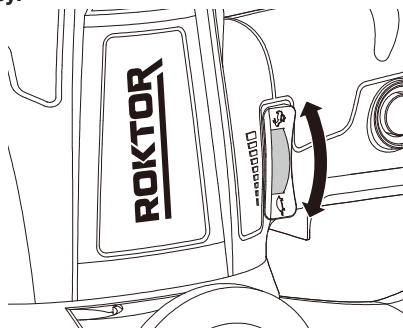

Figure 8
2. VARIABLE SPEED CONTROL (SEE FIG. 8)